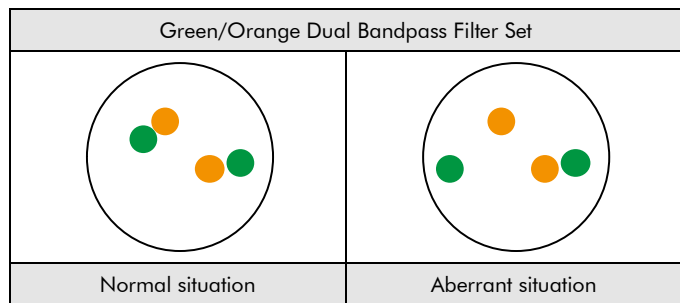

Fig. 2: Expected results in normal and aberrant nuclei
**Normal situation:** In interphases of normal cells or cells without a translocation involving the IRF4,DUSP22 gene region, two green/orange fusion signals appear (see Fig. 2).
**Aberrant situation:** One IRF4,DUSP22 gene region affected by a translocation is indicated by one separate green signal and one separate orange signal (see Fig. 2).